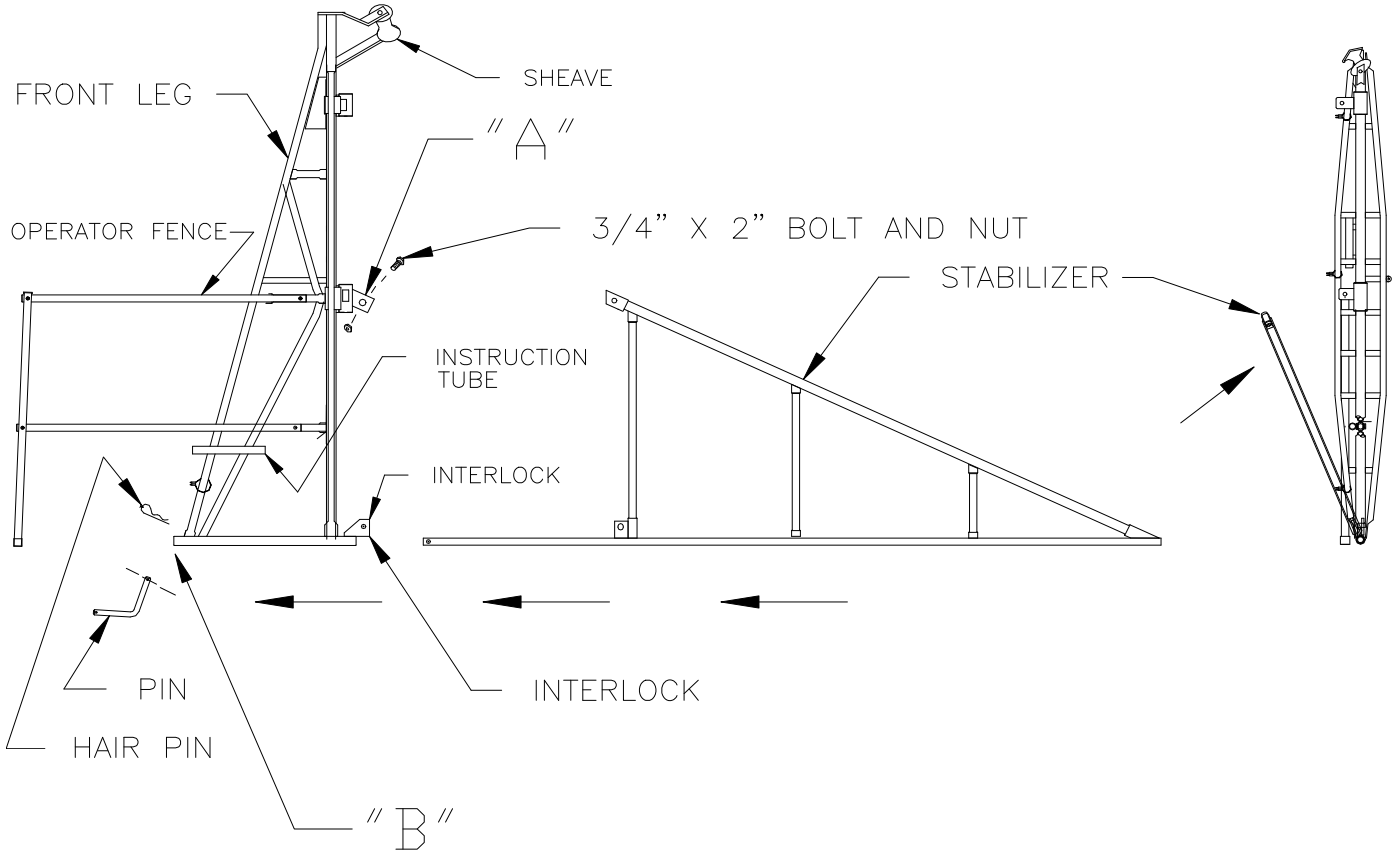

Figure 3-3.
4. Swing Stabilizer high enough to engage the interlock as shown in Figure 3-3.
5. Connect the upper 3/4" x 2" bolt and nut at point "A" between the Front Leg and Stabilizer. Connect the lower pin and hairpin at point B between the Front Leg and Stabilizer. These connections are shown in Figure 3-3.